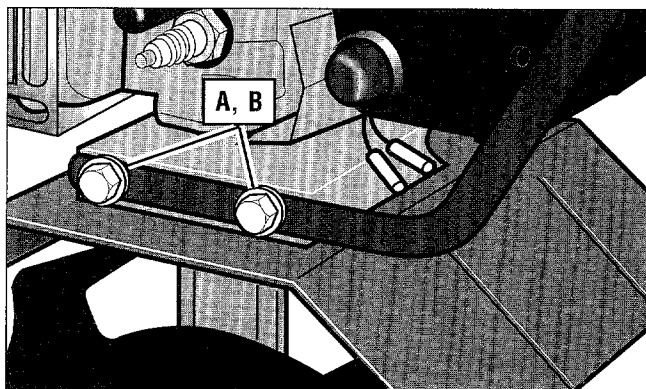

Figure 3: Attaching lower left handlebar.
3. Position the round end of the lower left handlebar in the slot on the left side of the transmission – see Figure 3. (Look at the upper end of the handlebar and check that the groove in the half-round handlebar is facing inward. If not, install the other lower handlebar in the slot.)
4. Put a 1/4" flat washer (A, Figure 3) on the two 1/4"-20 x 5" long hex head screws (B) and insert the screws through the handlebar and out through the right side of the transmission.